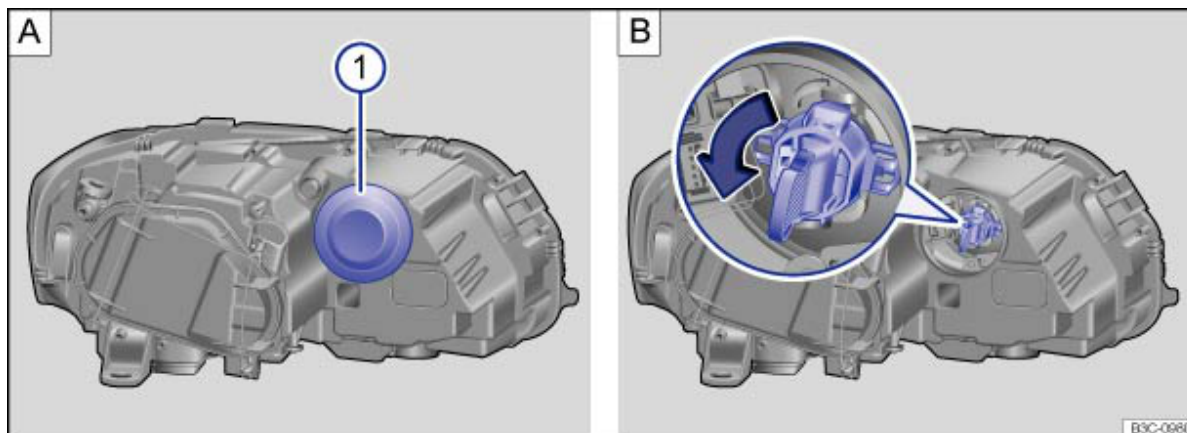

Fig. 243 In the engine compartment: cover on the left front headlight for the turn signal
3. Pull off rubber cover from back of headlight → Fig. 243.
4. Turn the bulb holder → Fig. 243 anti-clockwise.